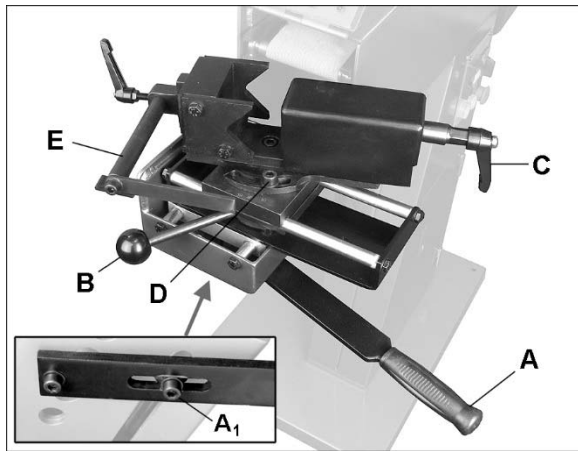

Figure 7-1
**IMPORTANT:** The vise handle (see A, Figure 7-1) has been tightened for shipping purposes. To allow proper operation, loosen screw (A1, Figure 7-1) about two revolutions.
See Figure 7-1.
The handles (such as C, Figure 7-1) can be adjusted to more convenient position; lift up handle and rotate it on the pin, then release, making sure it reseats on pin.